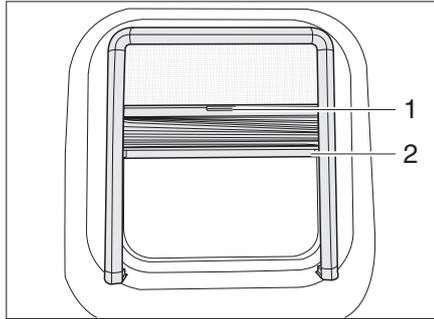

Fig. 30 Hinged window with damping, opened
- ▶ Grip into the notch (Fig. 30,2) and pull the blind from the top downwards as far as wished.
- ▶ Grip into the notch (Fig. 30,2) and push the blind upwards.
- ▶ Use the handle (Fig. 30,1) to pull the roller insect screen downwards.
- ▶ Use the handle (Fig. 30,1) to push the roller insect screen upwards.